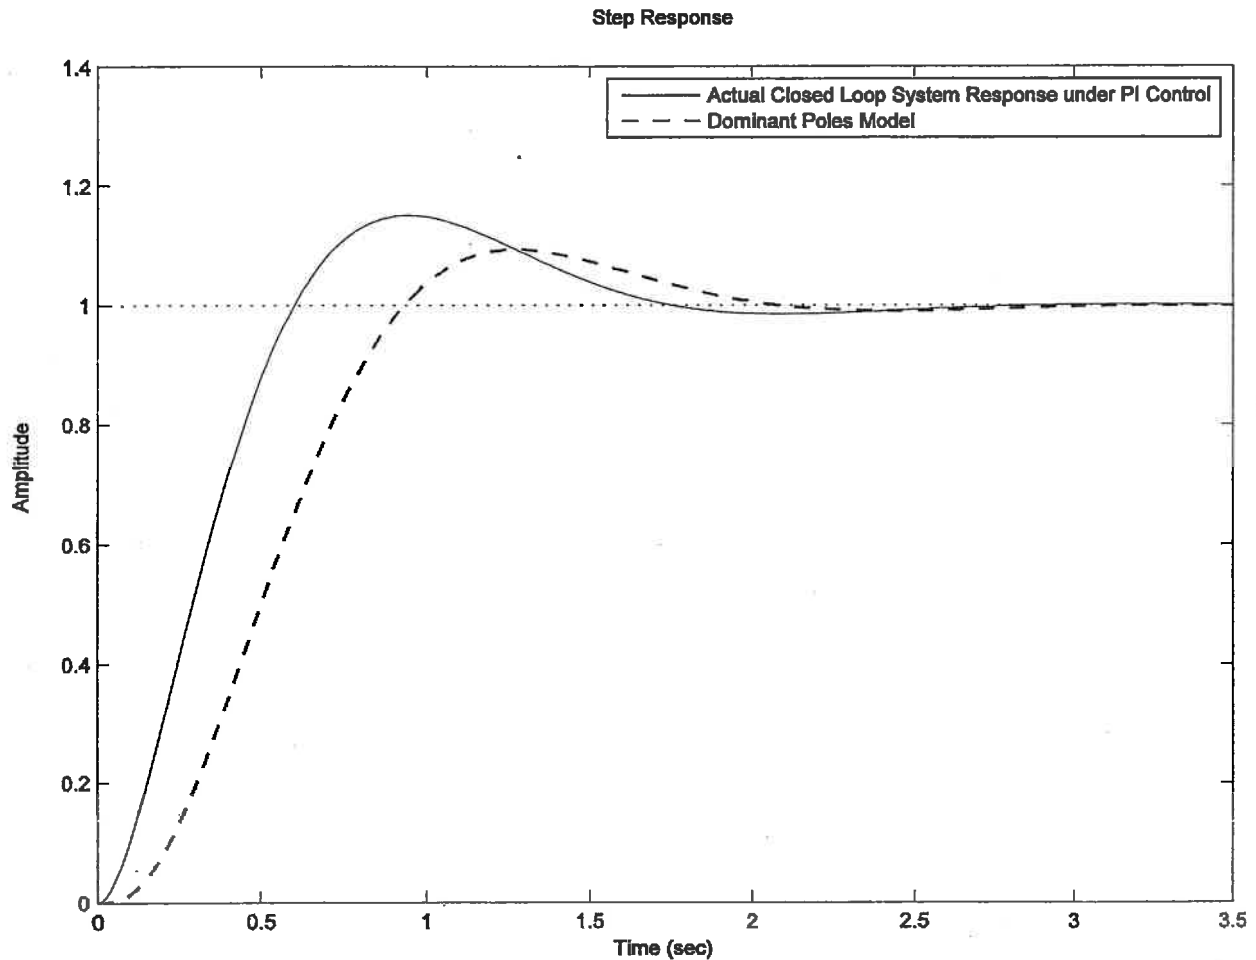

Figure Q1.2
- 4) (5 marks) Check if the assumption made in Item 1 is true, i.e. that the effect of the third closed loop pole is negligible. When can such an assumption be made? Is this condition met here? If it is not met, what is the expected effect of the real pole on the closed loop system response? Figure Q1.2 shows the response of PI Controller, compared with the response of a dominant poles model. Why are the two responses different? What factors are at play here? Comment briefly in the lined space provided.